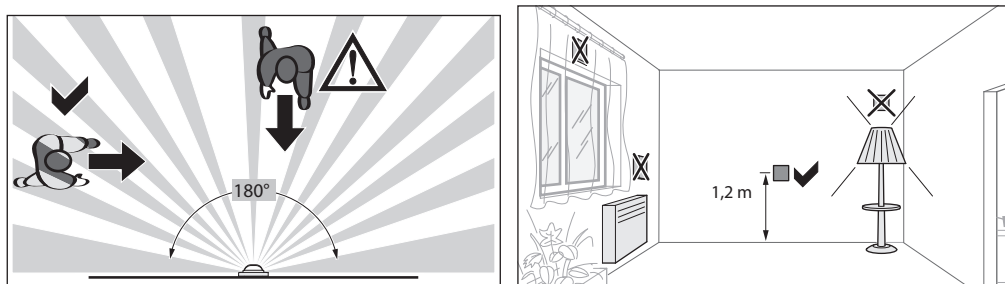
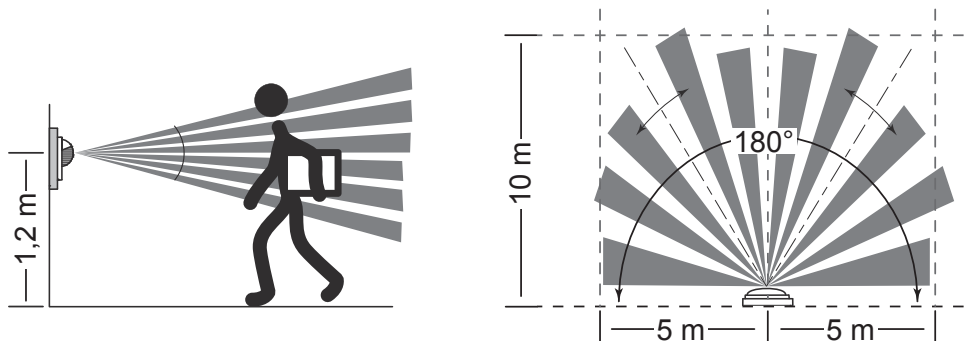

Fig 3: Installation location of the motion detectors
Fig. 4: Detection area
- Observe the motion orientation: a distinction is made between „direct approach“ and „transverse motion“. Motions transverse to the motion detector can be detected better than motions toward the motion detector (Fig. 3).
- Avoid sources of interference in the detection area (Fig. 4). Sources of interference, e.g. heating elements, ventilation systems, air conditioners and illuminants that are cooling down can cause undesired switching (Fig. 3).